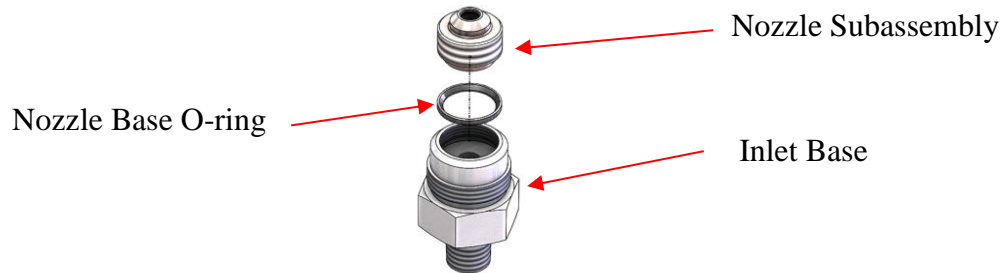

Figure 14: Nozzle/Seat Subassembly
10. Remove and discard the nozzle base o-ring. See Figure 14.